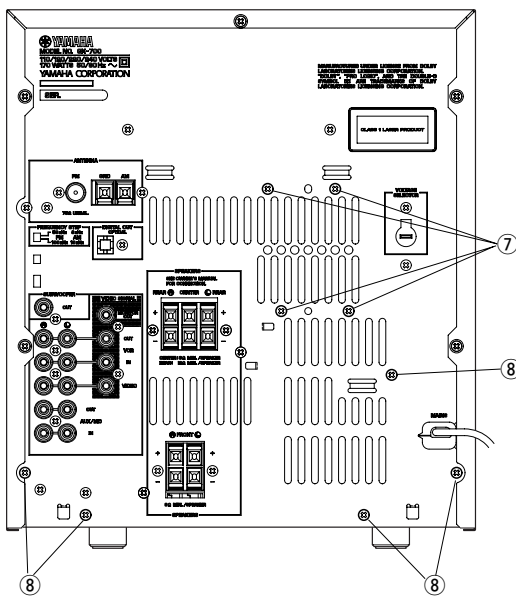

Fig. 6
6. Operation Check of P.C.B. Main (1)
- d. Remove 4 screws (⑦) and then remove the Fan in Fig. 6.
- e. Remove 5 screws (⑧) in Fig. 6.